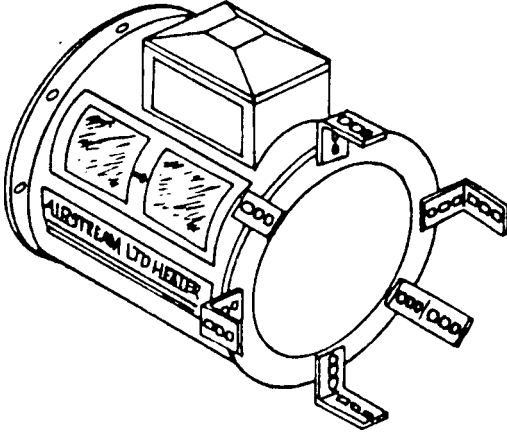

Figure 2: The six(6) mounting brackets positioned on the LTD Heater.
2. Make field connections of wires in fan box as shown in Figure 2. 110V power supply or .5KVA 460V to 110V transformer must be used to supply power for heater. **IMPORTANT! HEATER MUST BE INTERLOCKED WITH FAN FOR SAFE OPERATION.**
3. Connect deluxe thermostat control (optional) as shown in Figure 2. **IMPORTANT! THERMOSTAT MUST BE INSTALLED FOR SAFE OPERATION.**